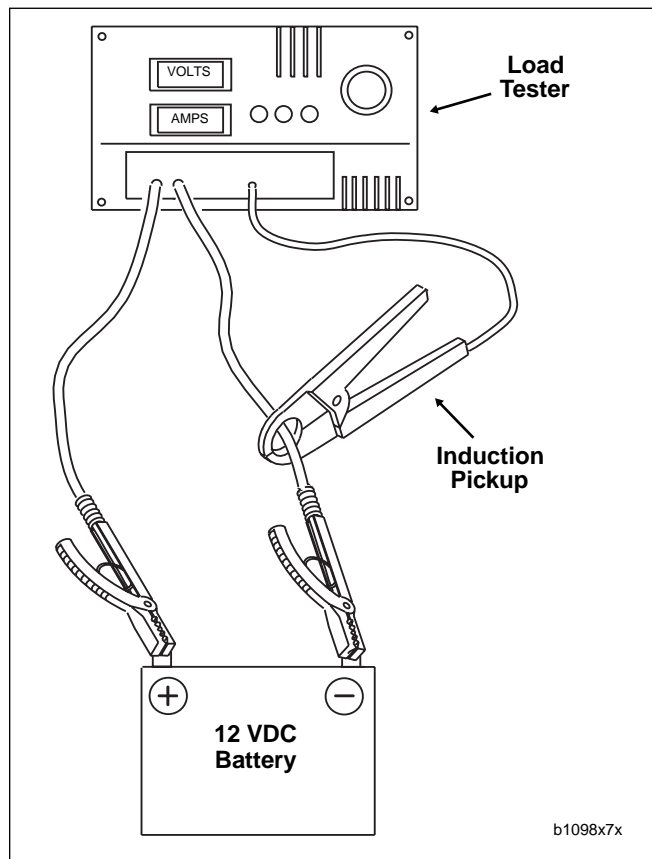

Figure 7-47. Load Test
3. Connect tester leads to battery posts and place induction pickup over negative (black) cable. See Figure 7-47.